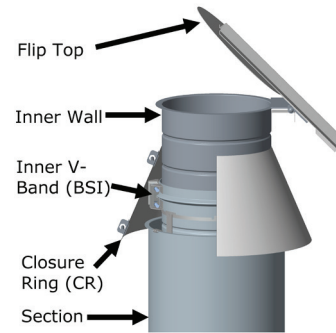

Figure 69 - Flip Top (FT) installed
the uppermost chimney pipe section with a inner V-Band (BSI) (See **Step 1 to 4 in the JOINT ASSEMBLY Section**). For Models CAX1, CIX1, CIX2 and CIX4, a Closure Ring (CR) is provided to protects the insulated space between standard pipe inner and outer. If a FT is installed on a horizontal termination, the hinged side of the top must be oriented at the top of the pipe keeping the counterweight up. The CR must be seal to the inner wall with outer Sealant **S-375**. See **Figure 69**